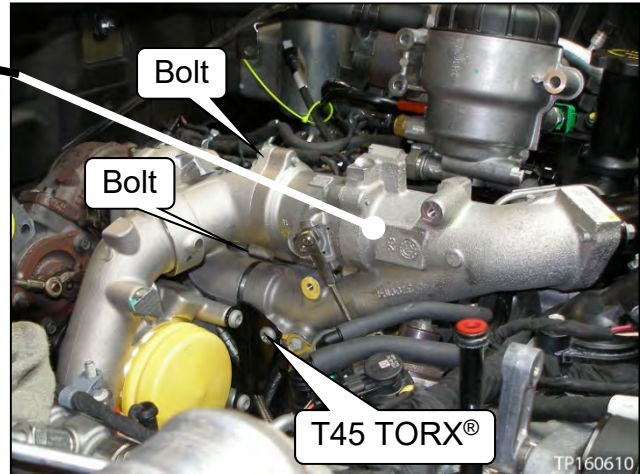

Figure 66
- d. Install two new bolts (see Figure 66).
- e. Install the T45 TORX[®] bolt finger tight (see Figure 66).